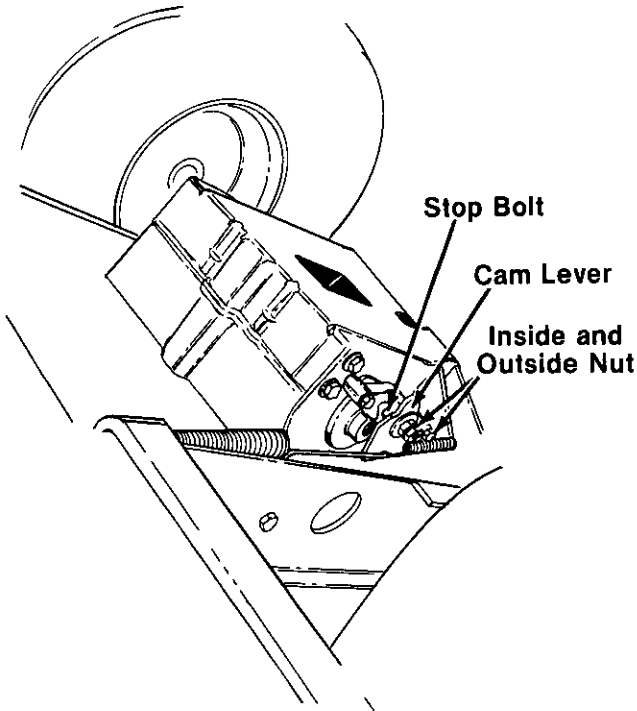

FIGURE 14.
2. Loosen the inside nut until the cam lever can be pushed forward so that there is a 1/8" to 3/16" space between the cam lever and stop bolt. See figure 14.
3. Tighten the outside nut against the inside nut, using two 1/2" wrenches. See figure 14.